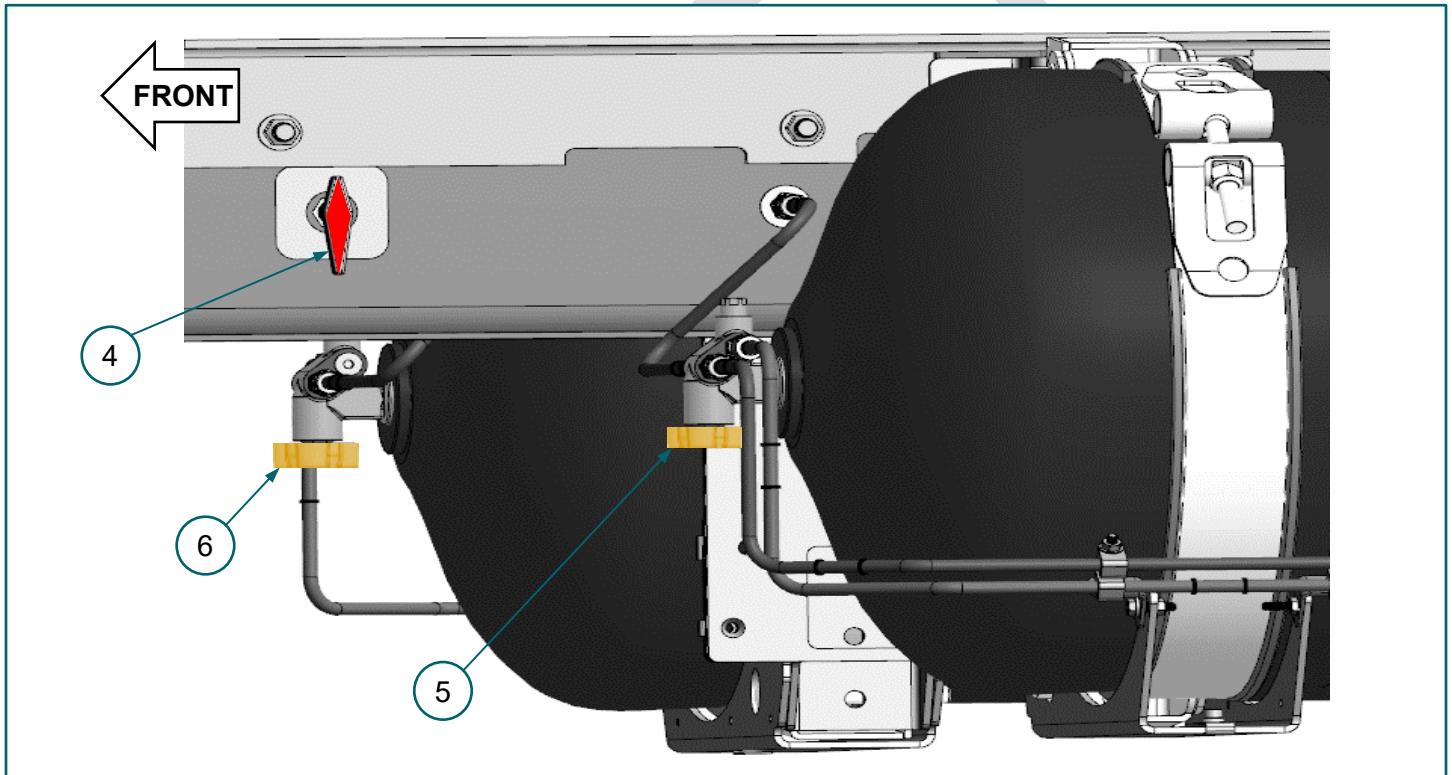

FIGURE 2-1. (5) DS manual cylinder valve, (6) PS manual cylinder valve, (4) 1/4-turn manual shutoff valve
1. Close driver side (DS) cylinder manual valve (5). **FIGURE 2-1**
2. Close passenger side manual valve (6). **FIGURE 2-1**
3. Close 1/4-turn manual shutoff valve (4). **FIGURE 2-1**